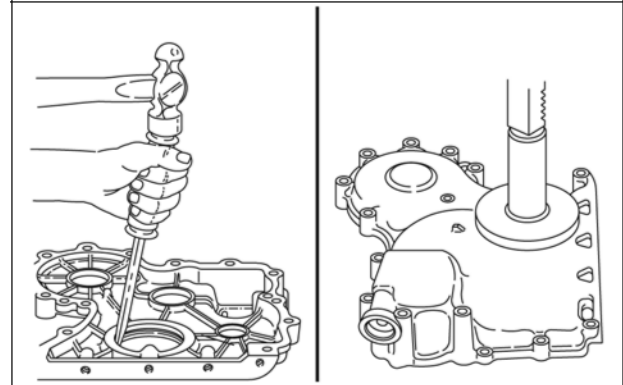

Figure 12
2. Use Seal Driver #19423 to install new oil seal (Figure 12).